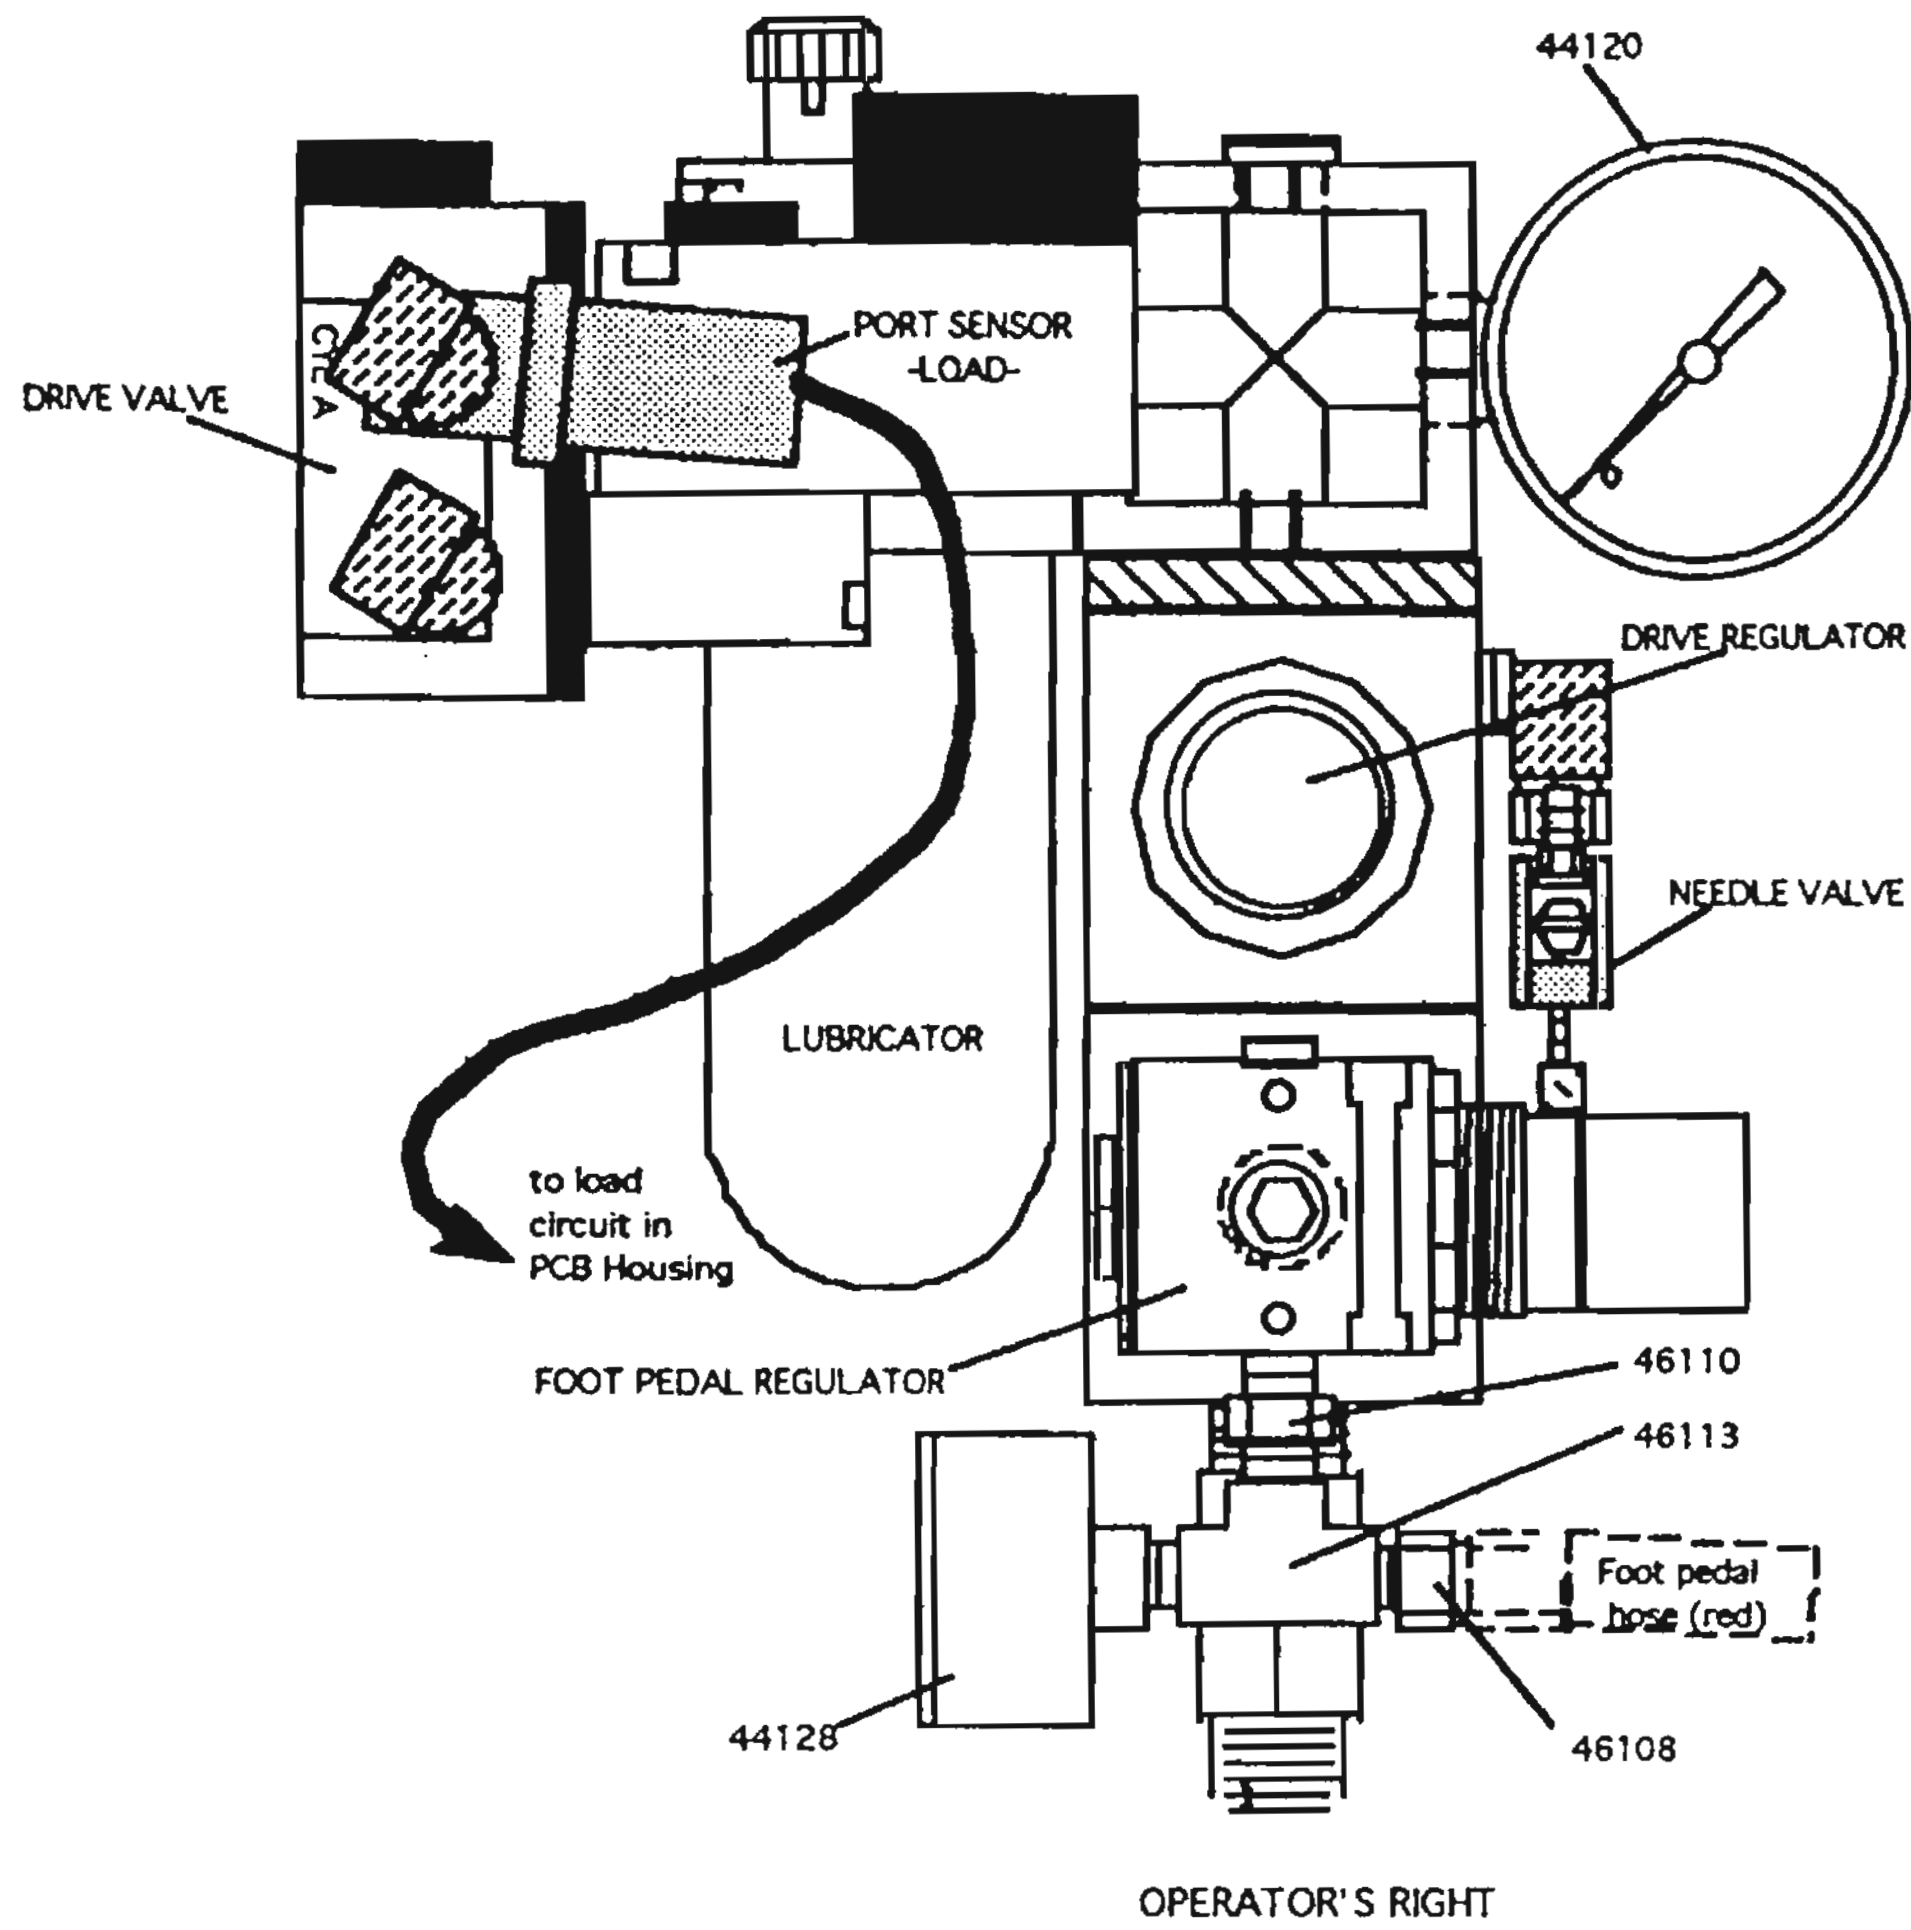

FIG 4-2
1. A single port sensor is used on the Model 560 AFC. It sends a signal to initiate the load cycle. **See Fig 4-2.**
2. It is installed in the NORMALLY CLOSED (A) port of the DRIVE VALVE, and is provided with a quick change, inline plug.
NOTE: REFER TO FIG 4-2